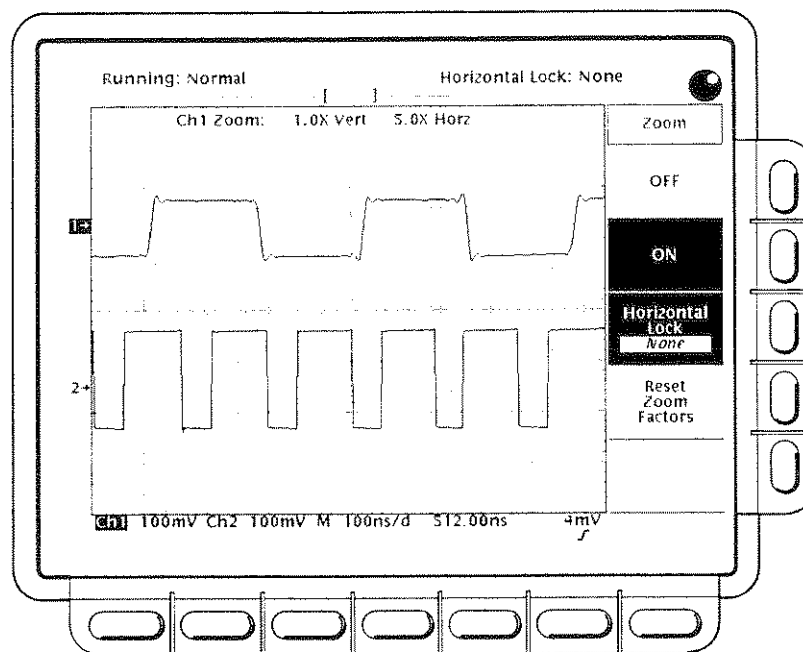

Figure 3-73: Zoom Mode with Horizontal Lock Set to None
- **None**—only the waveform currently selected can be magnified and positioned horizontally (Figure 3-73).